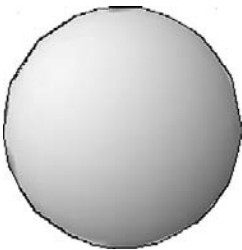

FIGURE 22.4
- Step 3.** A solid sphere is drawn based on the movements of your mouse, or you can enter a value by typing a radius or pressing **d** for diameter. The final shape is shown in Figure 22.4.